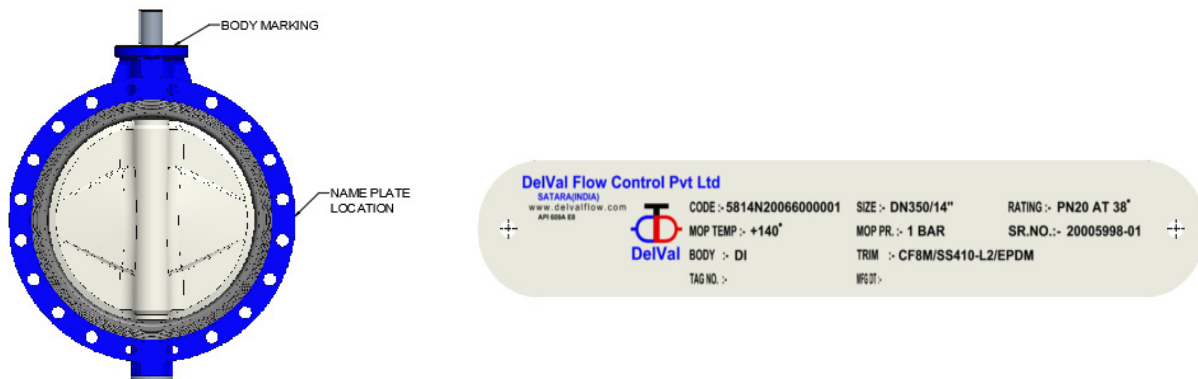

FIG.2. NAMEPLATE LOCATION AND SAMPLE NAMEPLATE
- 4.2. The valve specification details are marked on the nameplate and valve body. A typical nameplate is shown in Fig.2.